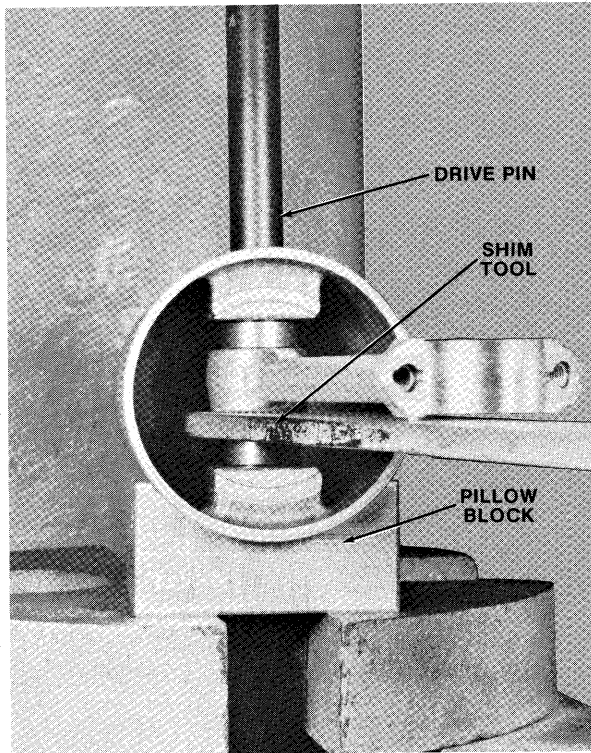

Figure 14—Pressing Out Piston Pin
- 4. Press piston pin out as shown in figure 14.
piston. See figure 14. This will position match mark of connecting rod "up" or always toward flywheel end of crankshaft.